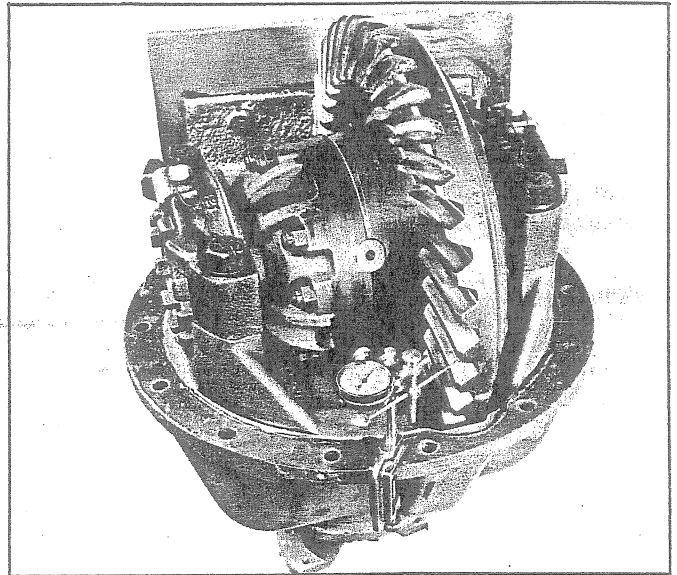

Fig. 68 - Checking Ring Gear and Pinion Backlash
20. Use a dial indicator as shown in Fig. 68 to check the backlash between ring gear and pinion. Backlash should be .009-.013 in. if new gear set is used; or the backlash noted at disassembly if the gears are not being replaced. Adjust backlash as follows: